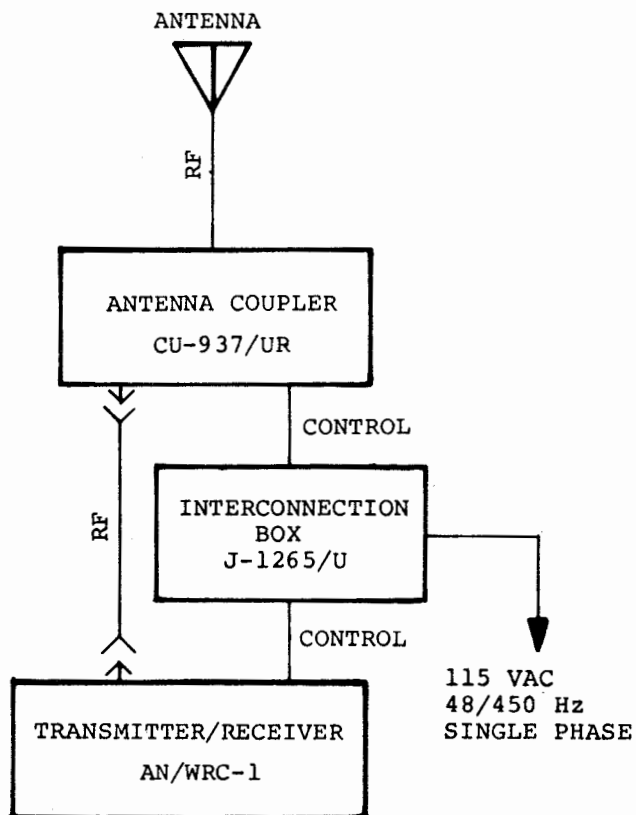

Figure 6-29 Antenna Coupler CU-937/UR Interconnection Diagram
- c. INTERCONNECTION DIAGRAM. - See Figure 6-29.